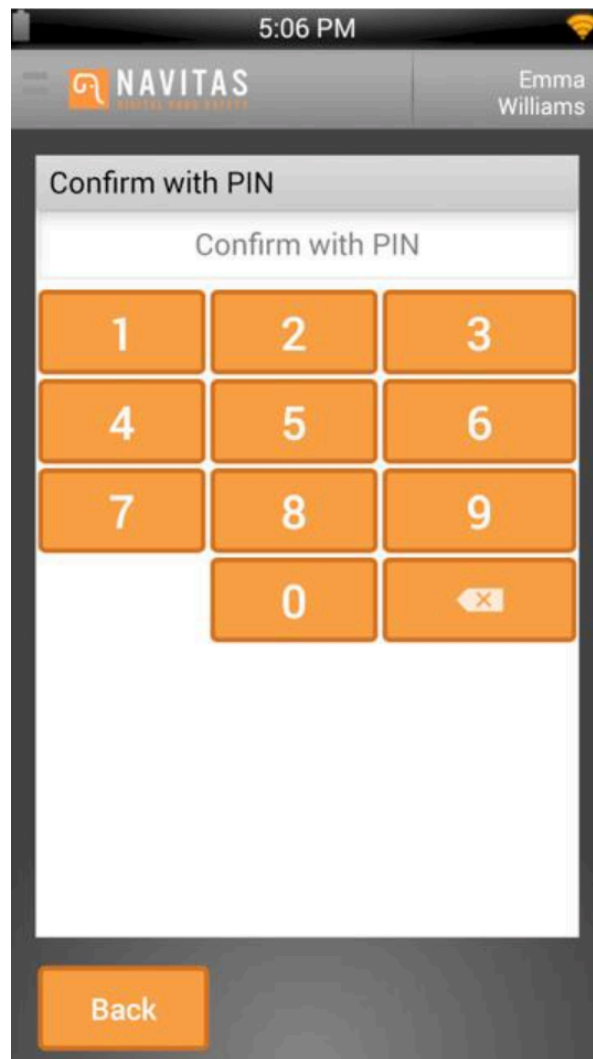

Fig. 14 – Staff PIN input
3. Enter the staff pin if required (see Fig. 14).